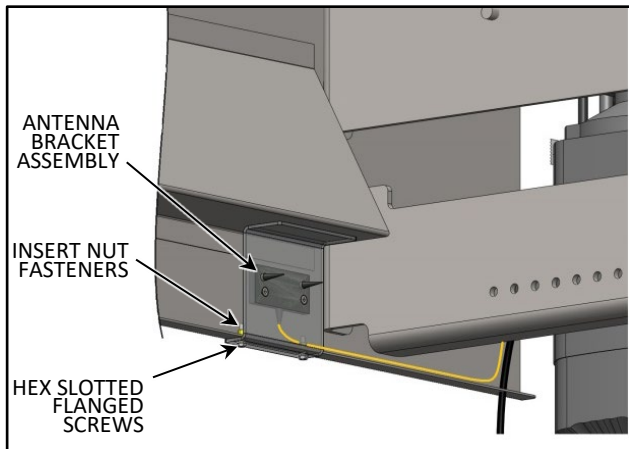

Figure 24
3. Locate and identify the insert nuts for mounting the antenna bracket assembly. They are on the lower inside of the front spreader on the drive side. (See Figure 24)
4. Install the antenna bracket assembly to the front spreader with (2) 10-24NC x $\frac{3}{4}$ " long hex flanged machine screws. Fastener hardware is located in the small parts carton. (See Figure 24)
5. Route the antenna wire along the front spreader to the motor encoder and connect it as documented in that section. (See Figure 24)